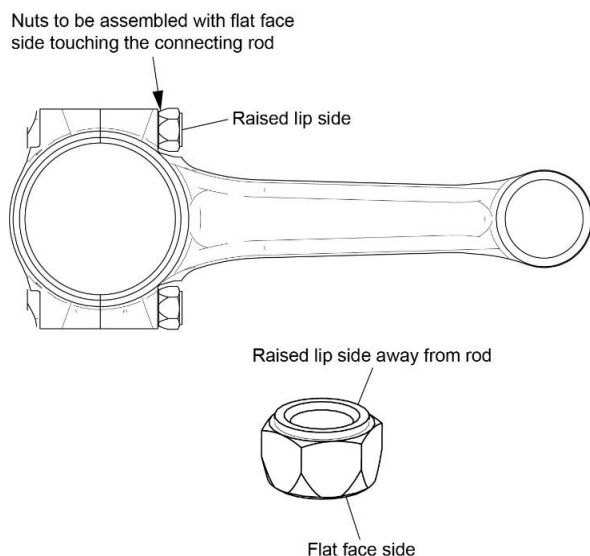

Figure 14
11. Install a new nut on each new connecting rod bolt where the flat face of the nut touches the connecting rod as shown in Figure 14.